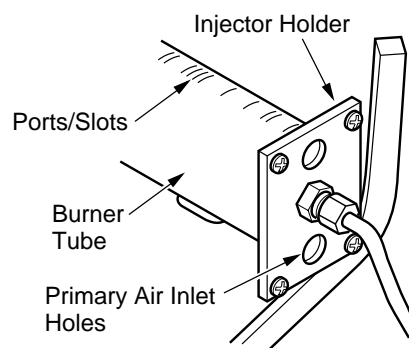

Figure 60 - Injector Holder On Outlet Burner Tube
2. Inspect burner, pilot, and primary air inlet holes on injector holder for dust and dirt (see Figure 60).